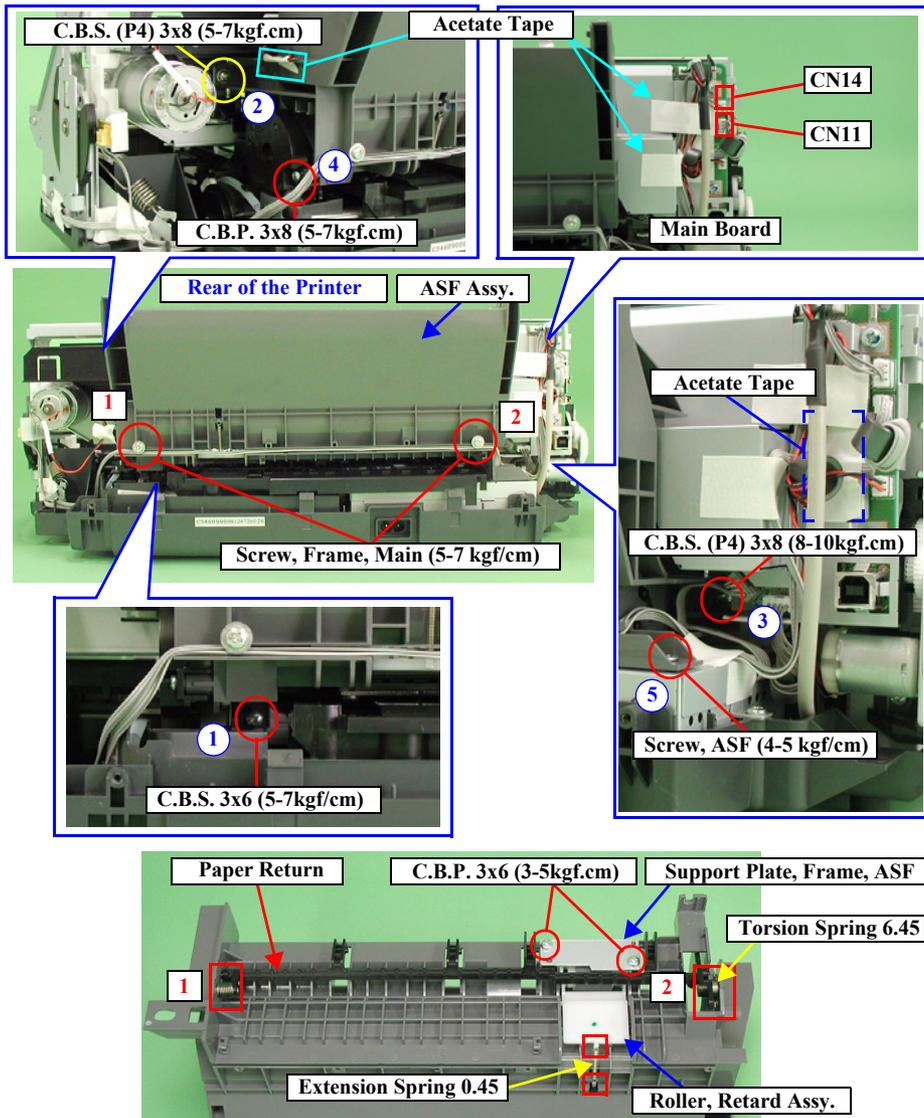

Figure 2-7. ASF Assy. Removal
- Secure the ASF Assy. with five screws following the order of Figure2-7.
- Secure the Connector Cables of the PG Sensor and Sensor, CDR Assy. to the ASF Assy. with two screws following the order shown in Figure2-7.